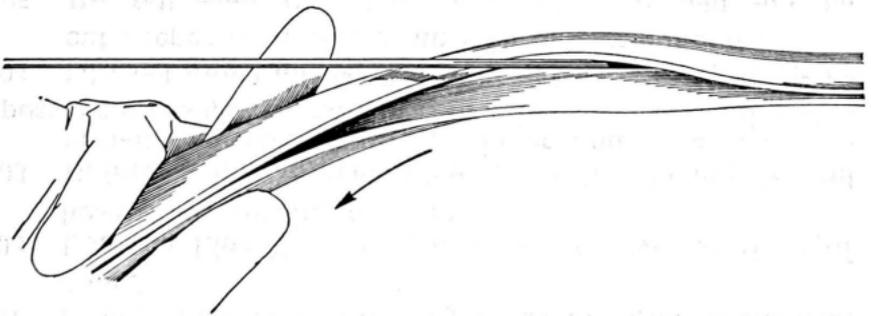

Fig. 2
4.05 In removing Line Hose from wire, first rotate the hose until the lip is pointing either upwards or sideways. Next take the near end off the wire and then pull the hose toward the pole as illustrated in Fig. 2.